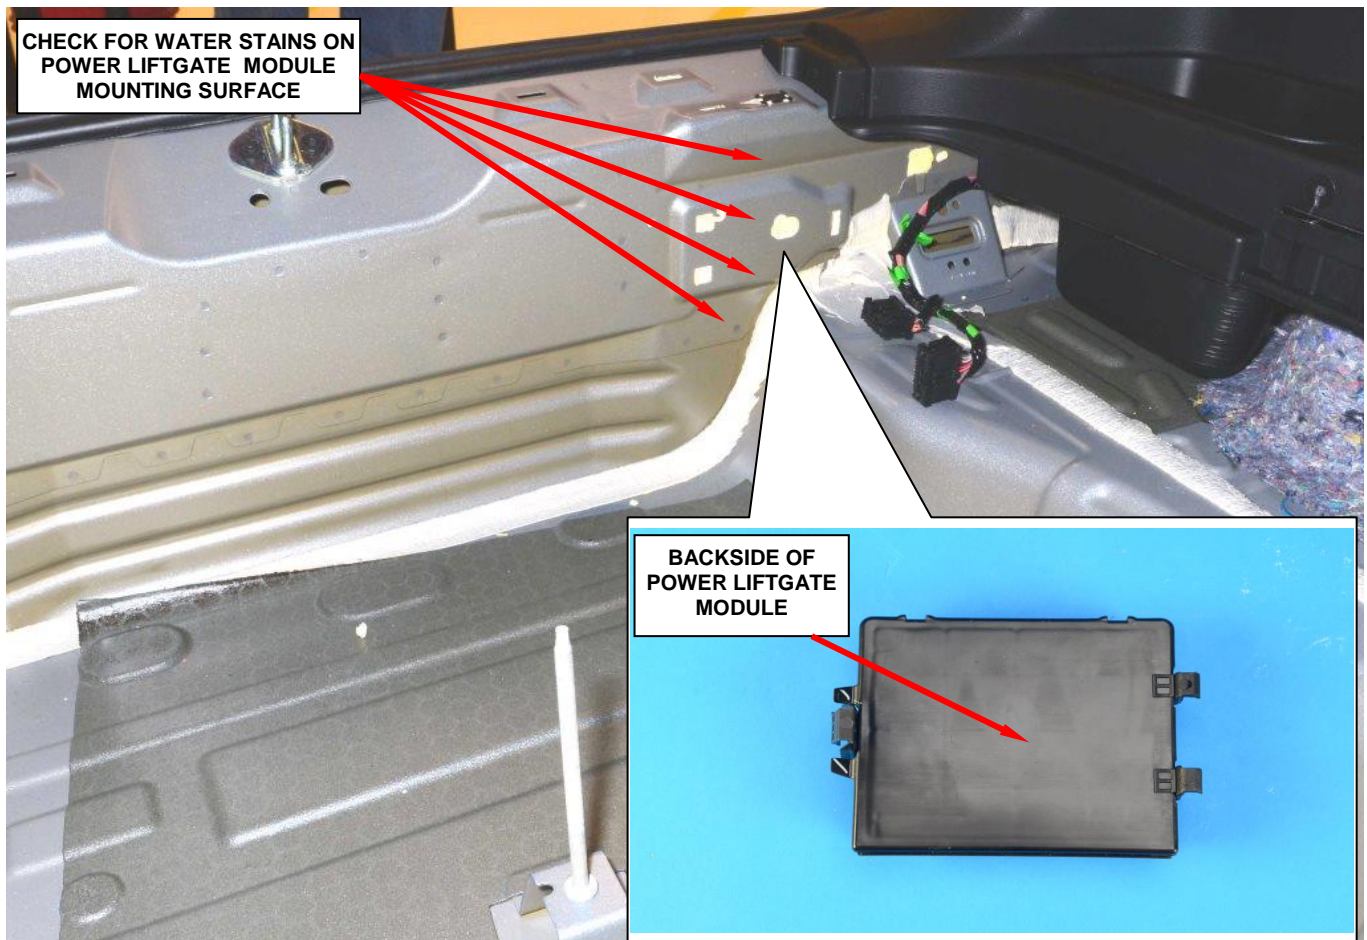

Figure 17 – Check for Water Stains on Backside of PLG Module and/or Mounting Surface
- If water stains are **not present** on the PLG module and/or mounting surface, continue with Step 3 of this procedure (Figure 17).
- If water stains are **present** on the PLG module and/or mounting surface, discard the original module. The PLG module must be replaced. Then continue with Step 3 of this procedure (Figure 17).